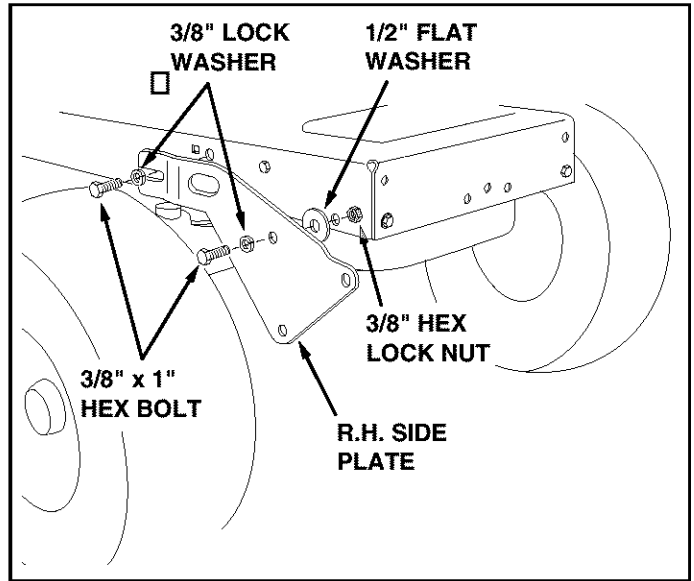

FIGURE 5 RIGHT SIDE VIEW
- Attach the R.H. Side Plate (marked "R") to the right side of the tractor frame as shown in figure 5. For the front hole use a 3/8" x 1" hex bolt, a 3/8" lock washer, a 1/2" flat washer and a 3/8" hex lock nut. Use the flat washer as a shim between the frame and the side plate. For the rear hole use a 3/8" x 1" hex bolt, and a 3/8" lock washer. Repeat for the L.H. side.